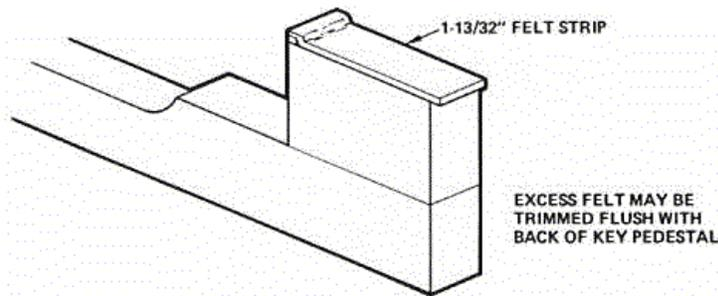

Figure 6-6. Key Pedestal - Felt Modification Complete
12. Remove the  $1-13/32"$  (35.719mm) Felt Strips from the paper backing one at a time and place them on the top surface of the Key Pedestal with the  $5/32"$  (3.969mm) Felt Piece mounted. Be particularly careful to ensure that the  $1-13/32"$  (35.719mm) Felt Strip is flush with the front (closest to the Key Cap) surface of the Key Pedestal (Figure 6-6).